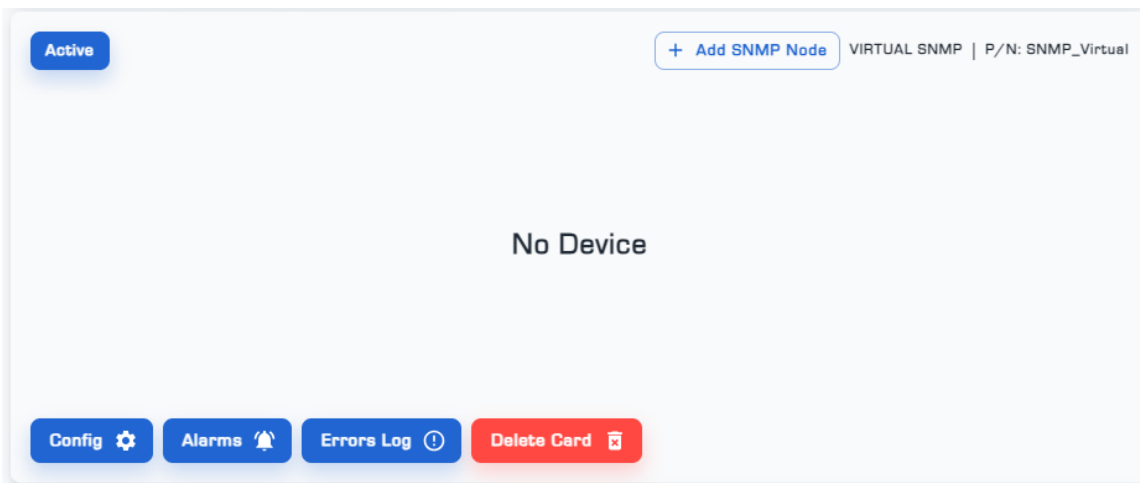

Figure 32: Display of the virtual SNMP card on the 'Cards List' page
Doing so will display the details of the virtual SNMP card on the 'Cards List' page (Figure 32).
(1) In Figure 32, click on the '+ Add SNMP Node' option.